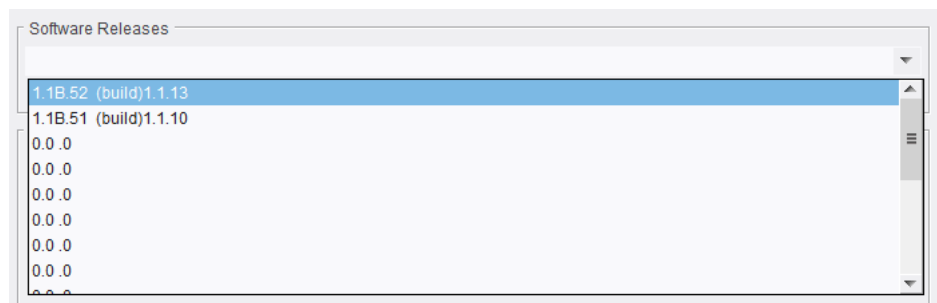

Figure 108 Select a Software Release
9. Select the **Software Release** required for installation with the **Software Releases** pull-down menu. See Figure 108.